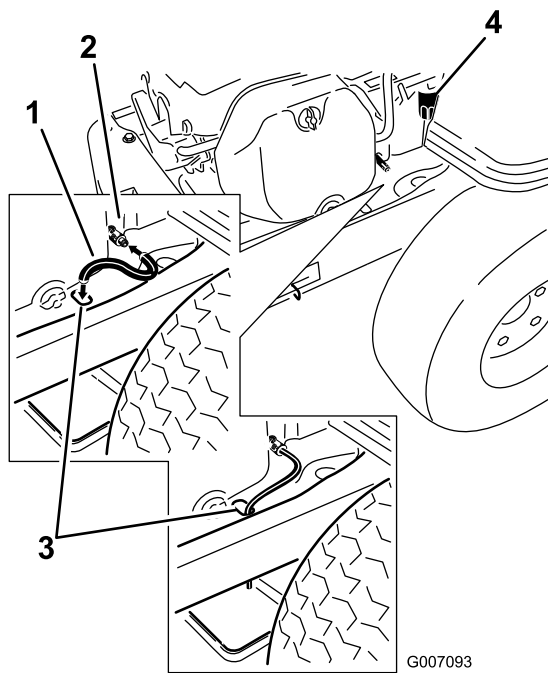

Figure 31
5. Clean the area around the drain valve and on the machine frame. Locate the oil drain hose and slide it over the drain valve (Figure 31).
6. Place the opposite end of the oil drain hose through the drain hole in the frame (Figure 31).